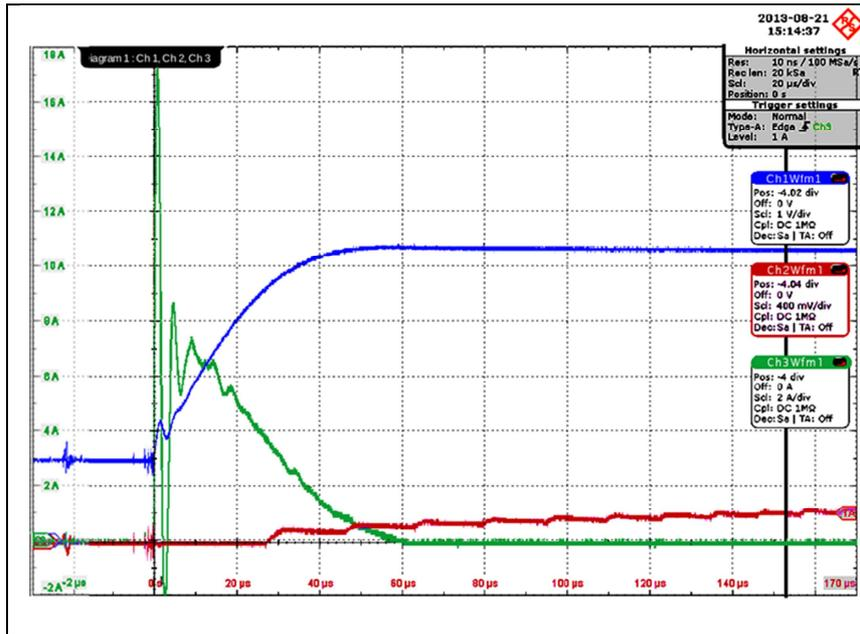

Figure 5: Waveform display of manual Inrush Current and start-up/soft-start measurements
- (1) Set the horizontal scale to a period that you think will capture the whole power-on sequence; the power-on behavior of interest may last for $< 100 \mu\text{s}$ for the capacitor inrush in a small DC/DC, or $> 100 \text{ms}$ for AC line-powered devices. For the DUT we are testing, $200 \mu\text{s}$ ($20 \mu\text{s}/\text{division}$) captures the initial V_{in} capacitor charge period (blue), and shows the beginning of V_{out} ramping up (red), as shown in
- (2) Figure 5, below.
- (3) Set the record length to 10k samples (or more) to ensure enough horizontal resolution, so that details of the power-on waveforms may be zoomed for finer examination, if desired.
- (4) Set the trigger source to the V_{in} channel.
- (5) Set the trigger level to about 20% of the V_{in} voltage setting.
- (6) Set the trigger position to about 2 divisions from the left side of the screen.
- (7) Set the V_{in} channel vertical scale so that the specified nominal input voltage will be at about 80% of full screen height.
- (8) Set the I_{in} channel vertical scale to a range that will allow the inrush current to be 'on-screen' (this may be on the order of 10x-20x the steady-state current of the DUT at normal full load).
- (9) Set the V_{out} channel vertical scale so that the specified nominal output voltage will be at about 80% of full screen height.
- (10) After configuring the oscilloscope, as detailed above, enable/switch ON the power supply output and capture the power-on behavior.